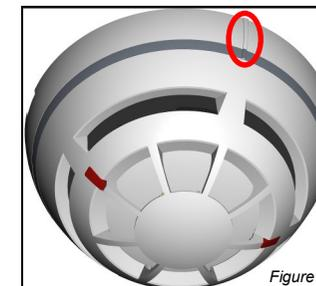

Figure 5
4) When the detector is firmly engaged, check the alignment of the raised reference marks on the detector and on the base (figure 5).